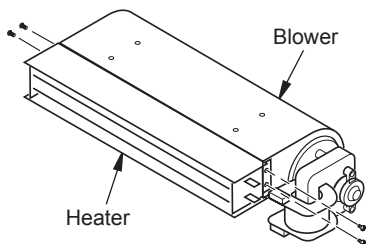

Figure 14 - Removing Heater from Blower
8. If replacing blower, remove screws from brackets on blower (see Figure 14, page 10). Install brackets to new blower.